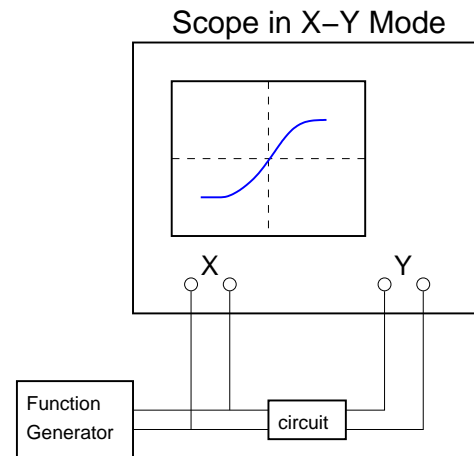

Figure 5.
- Use the function generator and scope to trace the transfer function as shown in Figure 5. Store and copy the X-Y plot. Carefully mark the scales. Compare your curve from Part 2(a) with the X-Y plot. What are the saturation voltages for the output?